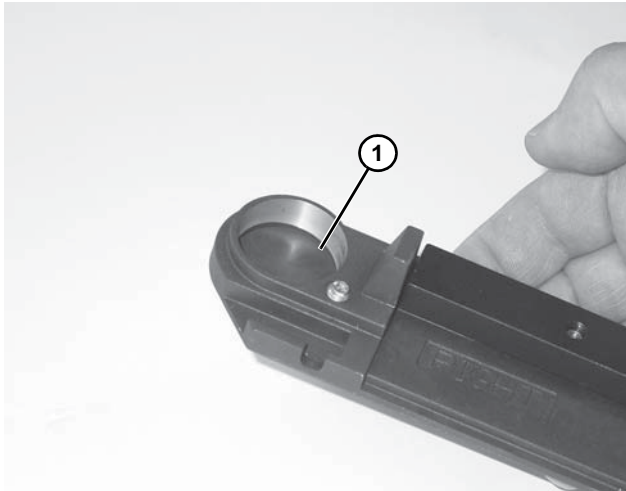

**Figure 39**
2. Using puller part #807-1716 (**Figure 39, item 1**), remove and discard bearing.